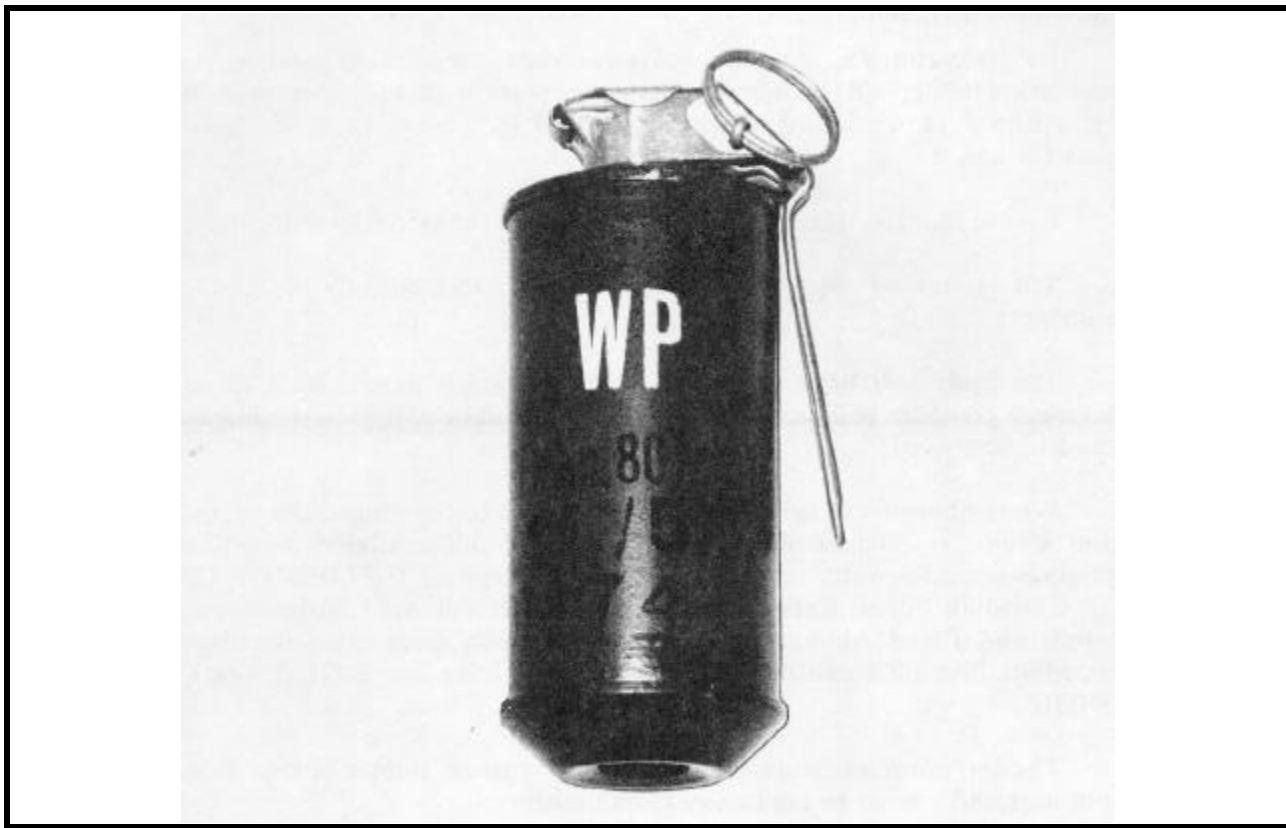

Figure 2-19    No. 80 Grenade
- (1) number and mark of the grenade,
- (2) filler's initials or trade mark,
- (3) month and year of filling, and
- (4) lot number of filled stores.
b. To indicate that the grenade contains white phosphorus, the WHITE letters "WP" 19 mm (3/4 inch) high are found in two diametrically opposed places on the body. See Figure 2-19 and Chap 1, Annex C for identification.